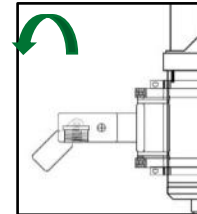

Figure 7
1. Tighten the stand mount arm using the handle on the suspension mount (Figure 7).